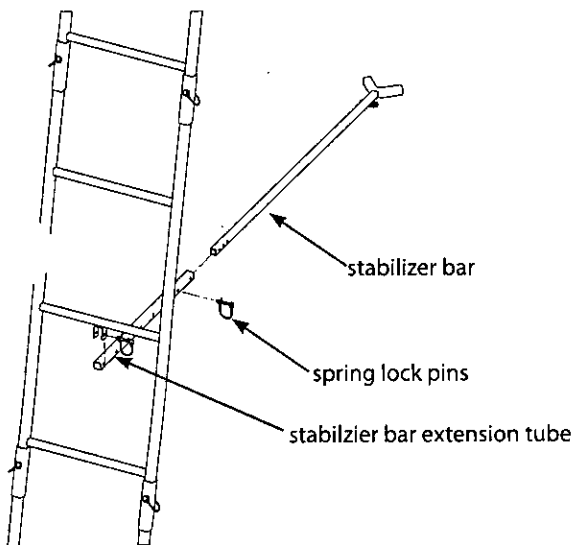

Figure 14
i. Attach the stabilizer bar extension tube (1ML23) to the second ladder section mounting bracket using (1) provided spring lock pin. **SEE FIGURE 14.**
b. Slide the stabilizer bar (L17) into the extension tube and attach the two pieces together using (1) provided spring lock pin. Spring lock pin must go through both the extension tube and stabilizer bar at appropriate hole to achieve desired distance from tree. Adjustment in length may be needed when ladder is uprighted later in instructions. **SEE FIGURE 14.**